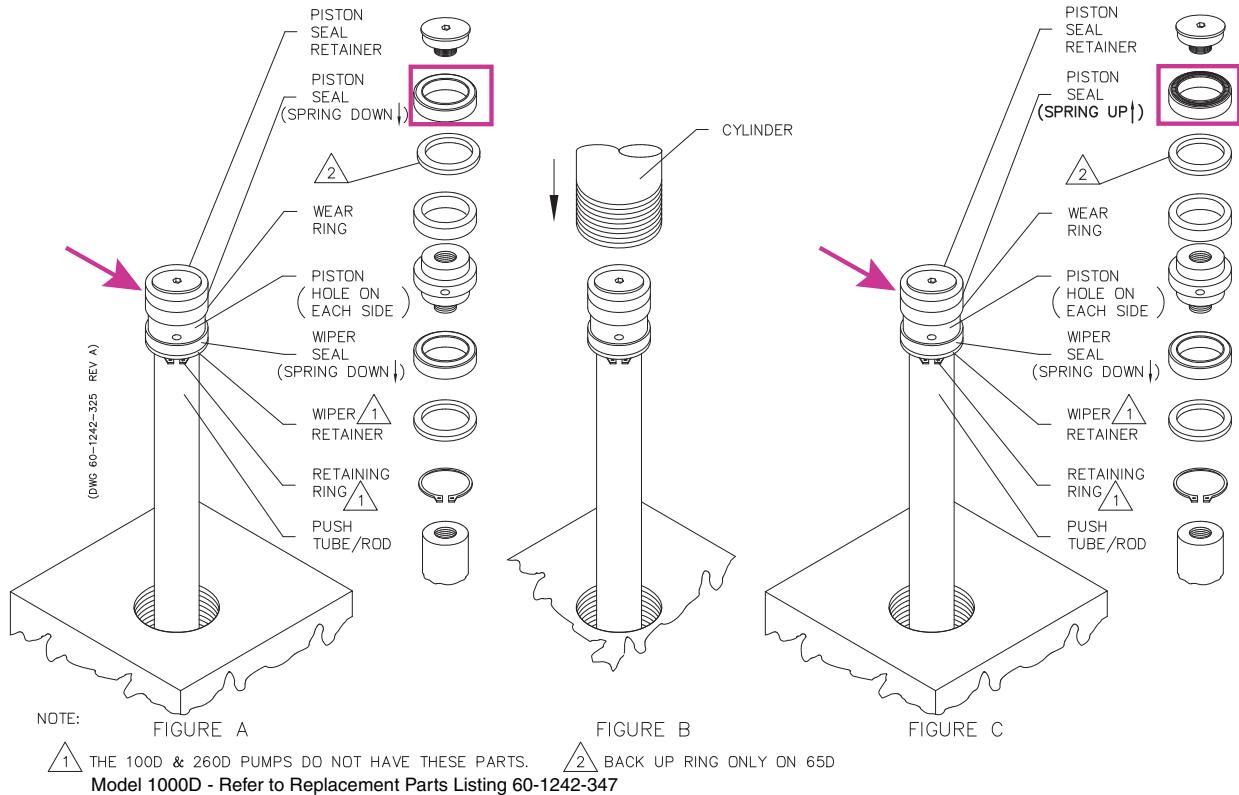

Figure 9-8 Break-in procedure for aqueous seals
1. Unscrew the piston seal retainer (Figure 9-8) from the piston and remove the seal from it. Notice that the spring imbedded in the seal is facing up or is on the top side of the seal.
2. Locate the piston (Figure 9-8).